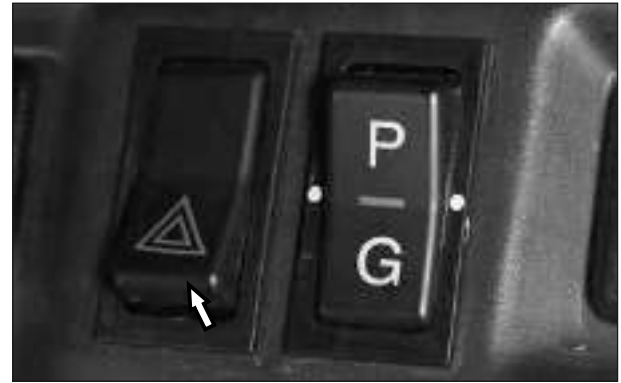

Fig. 6.36
- It is located on the center of the dashboard. Inspect the switch for continuity. (Fig. 6.36)